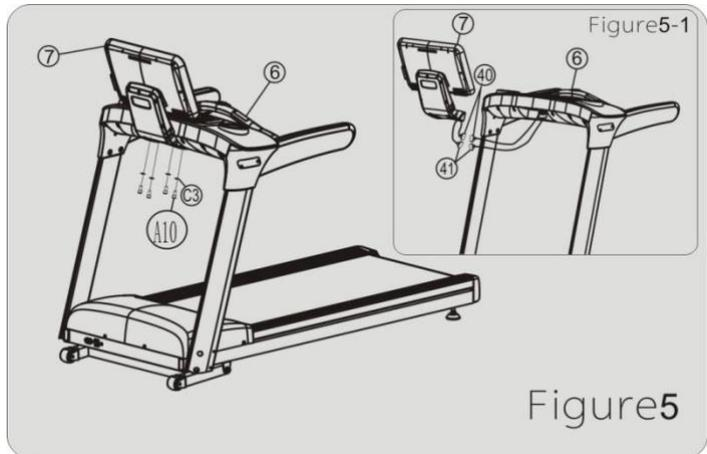

Figure5
5.2 Connect the display screen (7) to handlebar and controlling panel (6) by four sets of half-round bolt M10X25(A10), flat washers ϕ 10(C3). (Attention: To align screw hole) (See Figure 5)